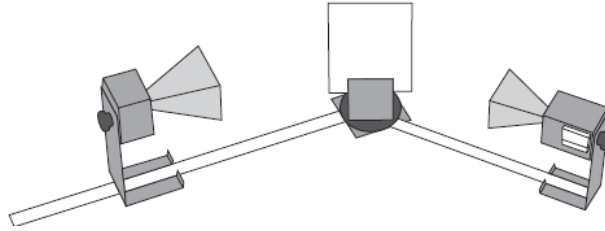

Figure 4: Initial equipment setup
6. Connect the reflector at the center of the goniometer as shown in Figure 4